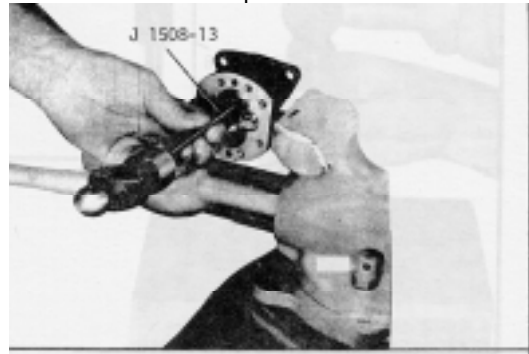

Fig. 6 Removing Oil Seals
- (1) Remove eight cover bolts and withdraw the pump cover from the pump body. Use care not to damage the finished faces of the pump body and cover.
- (2) Withdraw the drive shaft, drive gear and gear retaining ball as an assembly from the pump body.
- (3) Press the drive shaft just far enough to remove the steel locking ball. Then invert the shaft and gear assembly and press the shaft from the gear. Do not misplace the steel ball. Do not press the squared end of the shaft through the gear as slight score marks will damage the oil seal contact surface.
- (4) Remove the driven shaft and gear as an assembly from the pump body. Do not remove the gear from the shaft. The driven gear and shaft are serviced only as an assembly.
- (5) Remove the relief valve plug and copper gasket.
- (6) Remove the valve spring, pin and relief valve 1 from the valve cavity in the pump body.
- (7) If the oil seals need replacing, remove them with oil seal remover J 1508-13 (Fig. 6). Clamp the pump body in a bench vise and the end of the tool with a hammer to remove the outer and inner seals.